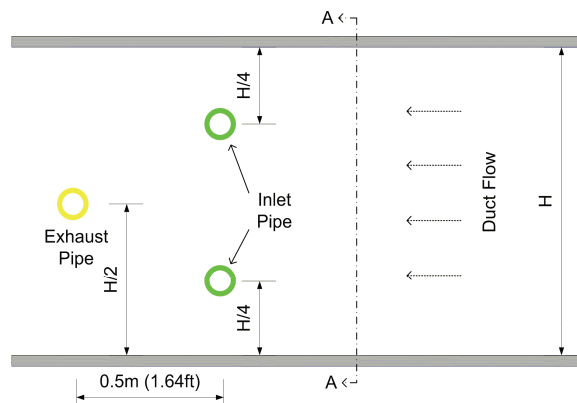

Figure 3 – Side view of the inlet and exhaust pipe positions for a large duct.
Large ducts are defined as those with widths of 1 to 2 m (3.28 to 6.56 ft). For these ventilation ducts, it is recommended that the inlet pipe of the smoke detector be in two branches. The figure below (Figure 3) shows a side view of a duct section with the relative insertion points for the inlet and exhaust pipes. The two inlet branches are located at a quarter of the height (H) of the duct with the exhaust pipe inserted mid-height approximately 0.5 m (1.64 ft) downstream of the inlet pipes.